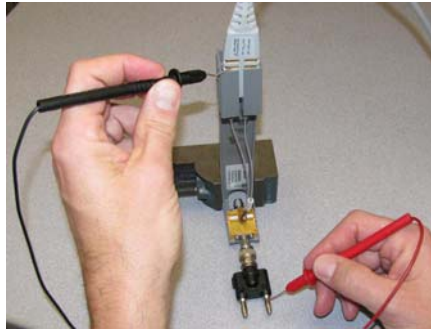

Figure 63 Measuring the single-ended input resistance of a ZIF or solder-in probe head
- 7 To measure the single-ended input resistance, measure the resistance between the signal plug of the banana adapter and the probe amplifier ground, which can be accessed as shown in Figure 63 (through the vent window of the probe amplifier).